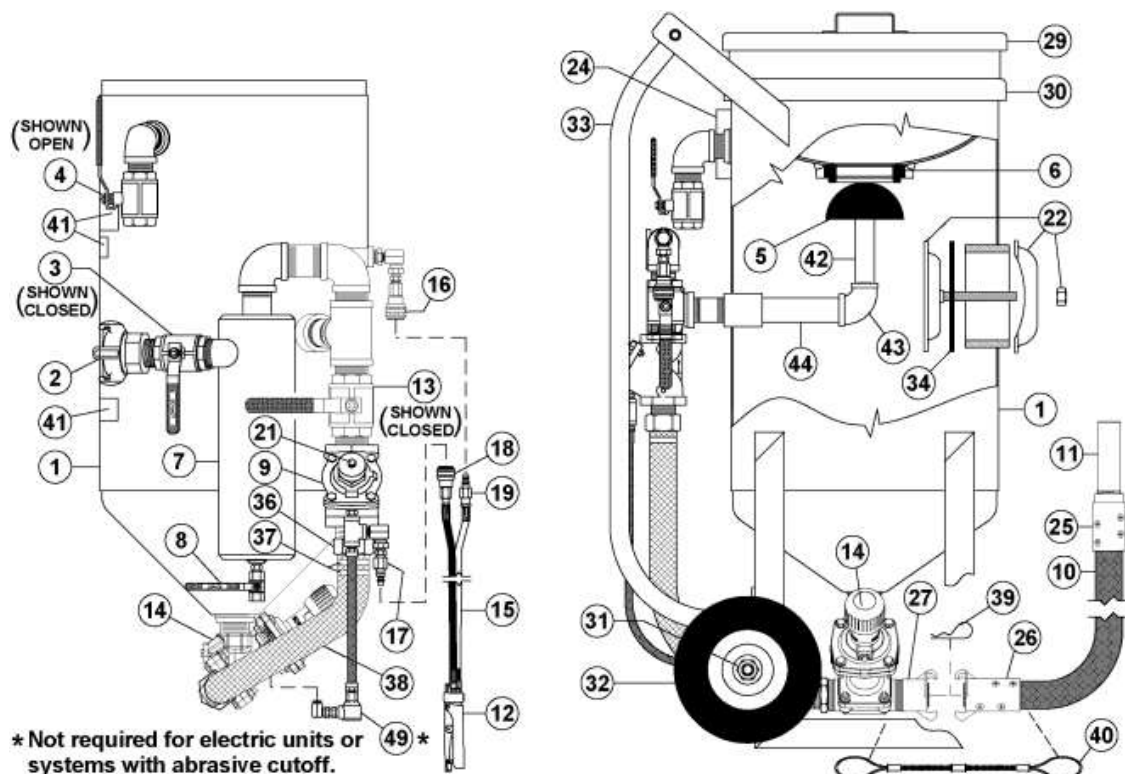

Figure 6.2 – TeraValve™ Abrasive Blaster with pneumatic blast controls
6.1 Abrasive Blaster Setup Procedure (see Figure 6.2 and 6.3)
- 6.2.1. Close the air inlet ball valve (#3). The ball valve is closed when the handle is fully turned to the position shown in Figure 6.2 (handle perpendicular to body). The handle tab will bottom against the ball valve body in the closed position.